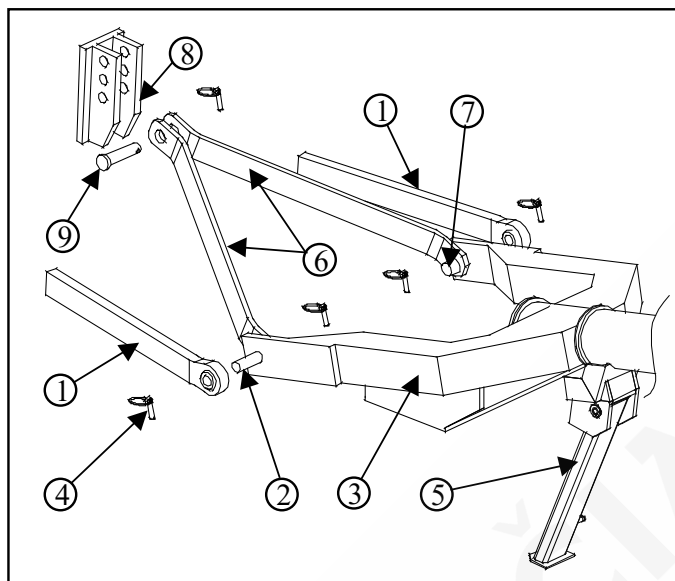

Figure 8 Aggregating the tractor with sprayer
- Slide the hanger ball joints (Fig. 8, p 1 - right and left) on the tractor pins (Fig. 8, p 2nd) rotary hook (Fig. 8, point 3) and secure with split pin (Fig. 8, step 4),
- increase the use of tractor hydraulic lift and move the front boom support (Fig. 8, p 5) the location of transport-work
- connect the brackets (Fig. 8, p 6) respectively of the pins (Fig. 8, p 7) and hook fastener top (Fig. 8, section 8) using a pin (Fig. 8, p 9), then secure the connection split pin (Fig. 8, step 4),
- stiff in the transverse direction (to drive) hangers (Fig. 8, p 1) by the tension of the chains or wedging,